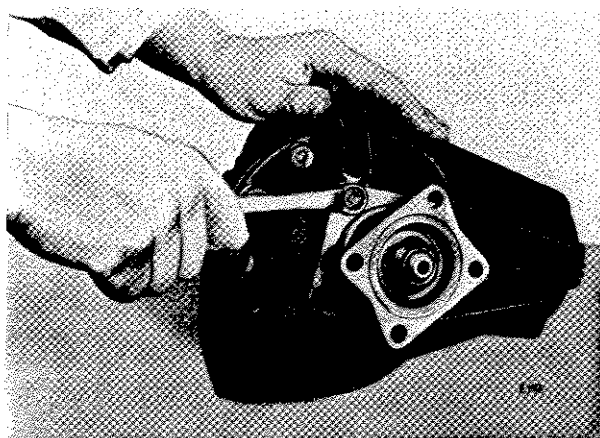
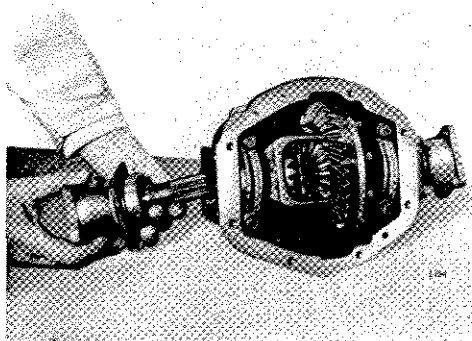

Fig. 56. Removing the bearing retainer bolts
Fig. 57. Removing the inner axle shaft assembly
Remove the inner axle shafts (34), by removing four bolts (Fig. 56) and spring washers from the bearing retainers (26) and withdrawing the shaft assemblies (Fig. 57). Remove the nut (30) and washer (29) and extract the flange (28); see Fig. 58.